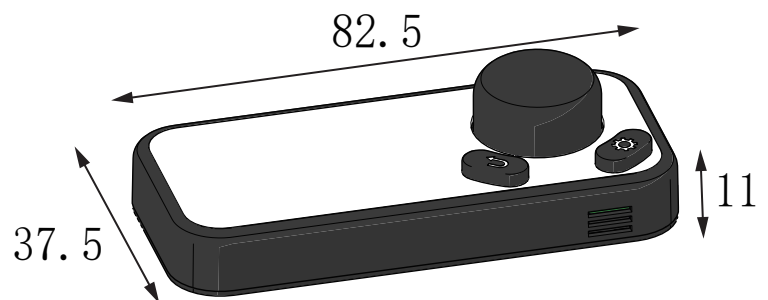

Figure 3
4. Finally, press the top cover firmly onto the back cover as shown in "Figure 3".